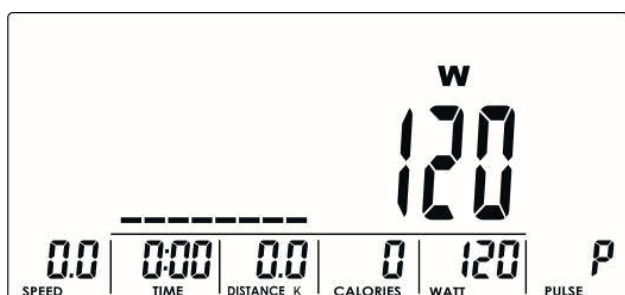

Fig. 15
2. Set the WATT target (default value: 120, fig. 15) with the encoder.